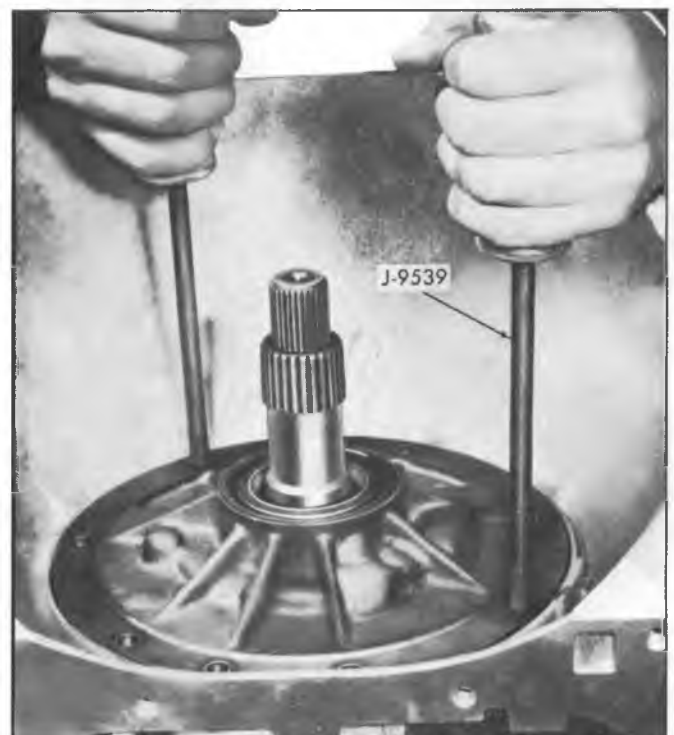

Fig. 21T--Removing Pump Assembly
- Install two 3/8"-16 threaded slide hammer bolts, J-9539 with weights J-6585-01, into bolt holes in pump body and remove pump assembly from case (fig. 21T). (See illustration for location of threaded holes.)